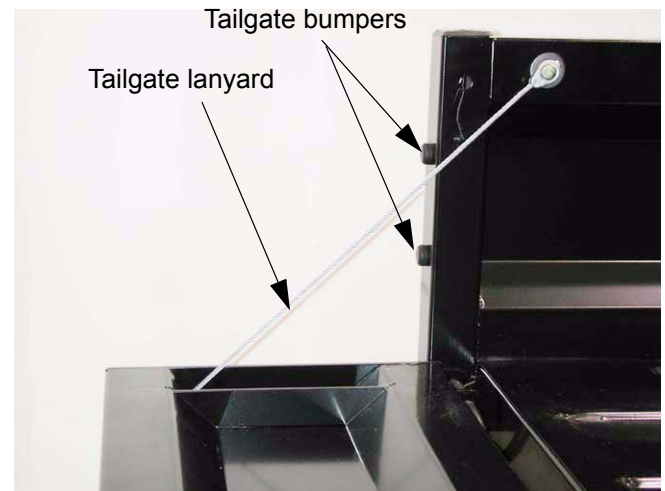

Figure 4.17
- 4.17. It can be released at the top for loading or dumping. See Figure 4.17.